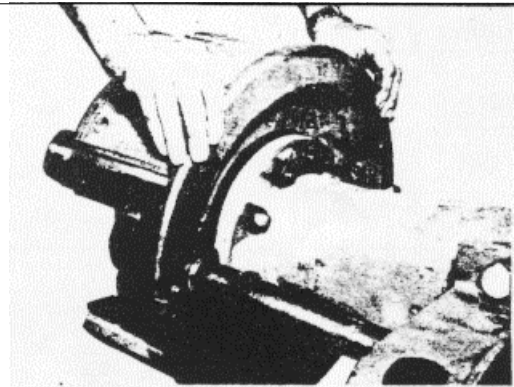

Fig. 22
- (g) Install the front camshaft retainer ring Fig. 22